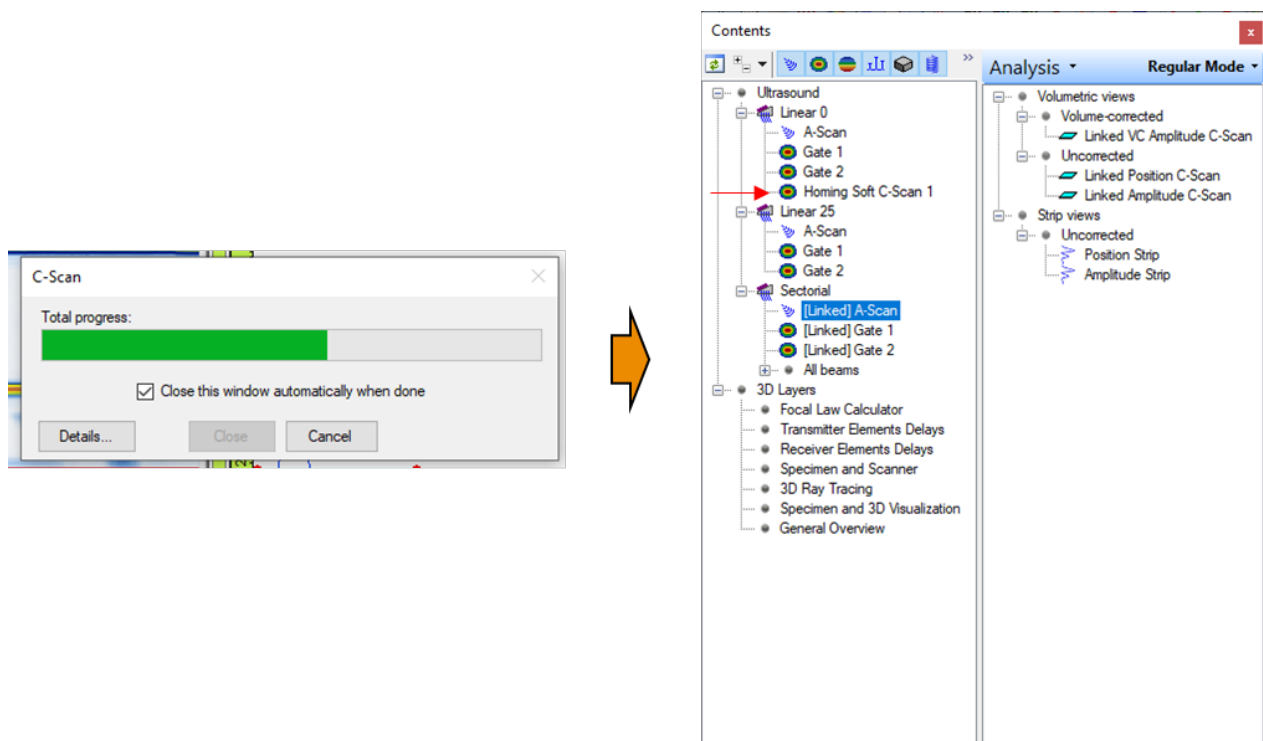

Figure 28: Processing and creation of Homing Soft C-scan
8. Once, the Soft C-Scan is processed, it will appear in the Contents menu (See Figure 28).